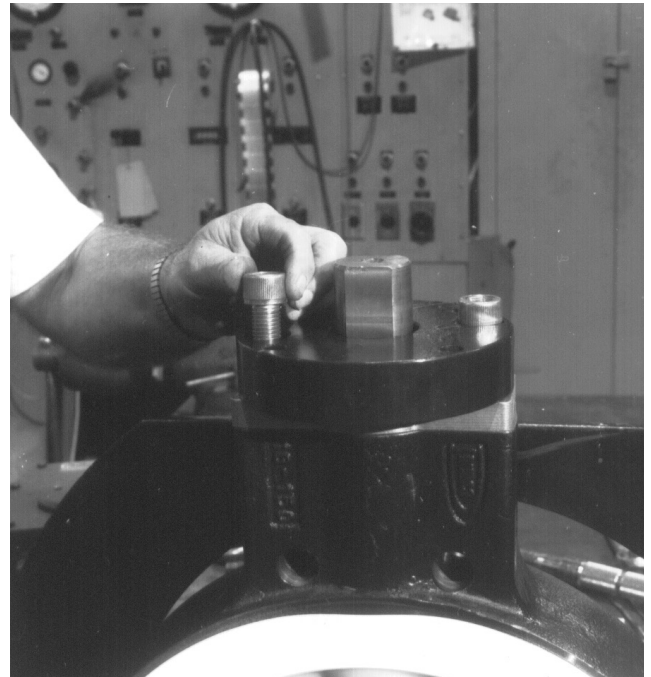

Figure 24
- 16. All Sizes:** Tighten the four top retainer plate screws following the instructions in step 15. After all four screws are torqued to the values listed in Table 6, remove the two longest retainer screws (installed in step 5). Place the mounting plate (13) on top of the retainer plate, reinstall the two long retainer screws (Figure 24) and torque to the values listed in Table 6. See note – Table 6.